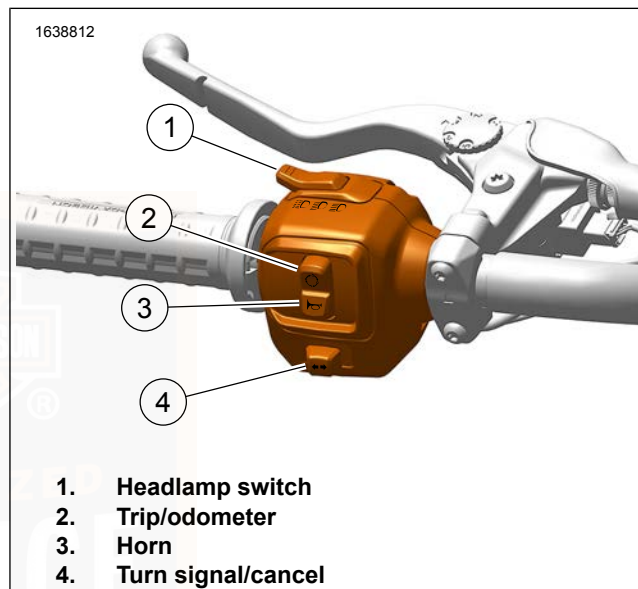

Figure 40. LHCM (Without Infotainment)
- **Flash to Pass:** See Figure 40. When the headlamp switch (1) is in the low beam position, press down and release the headlamp switch to use the flash to pass to flash the high beam before passing another vehicle. The high beam indicator on the IM is illuminated as long as the flash to pass button is pressed. When in accessory, press the flash to pass button to activate the headlamp.
- **Low Beam:** See Figure 40. From the high beam position, press the headlamp switch (1) down to activate the low beam.
- **High Beam:** See Figure 40. Press the headlamp switch (1) up to activate the high beam. The (blue) high beam indicator lamp is lit when the high beam is on.
See Figure 40. The trip button (2) activates the trip odometers. The trip button also is used to scroll through the additional screens of the odometer display. With the ignition off, the trip button can activate time or odometer displays.
- **Left turn signal:** See Figure 40. Push the turn signal switch (4) to the left to activate the left turn signal.
- **Right turn signal:** See Figure 40. Push the turn signal switch (4) to the right to activate the right turn signal.
- **Cancel:** See Figure 40. Press the turn signal switch (4) straight in to manually cancel the signals.
See Figure 40. The horn is operated by pressing the horn button (3). The horn can be activated for up to 10 s at a time. If the horn button is held for a longer period, the horn automatically deactivates.